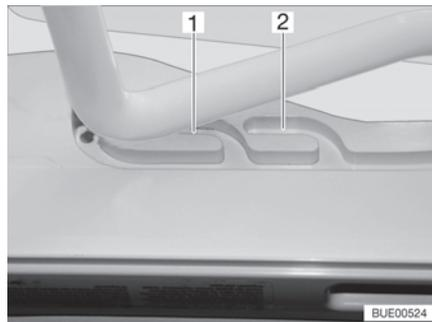
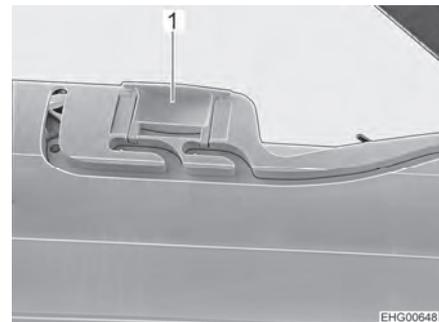

Fig. 56 Guide (ventilation position)
Fig. 57 Lock (ventilation position)
The Heki skylight can be put in two ventilation positions: Bad weather position (Fig. 56,1) and central position (Fig. 56,2). Depending on the model, the skylight can be locked in the central position with both left and right latches (Fig. 57,1) on the skylight frame.
- Push the bar slightly upwards and into the selected guide (Fig. 56,1 or 2) and lock if necessary.